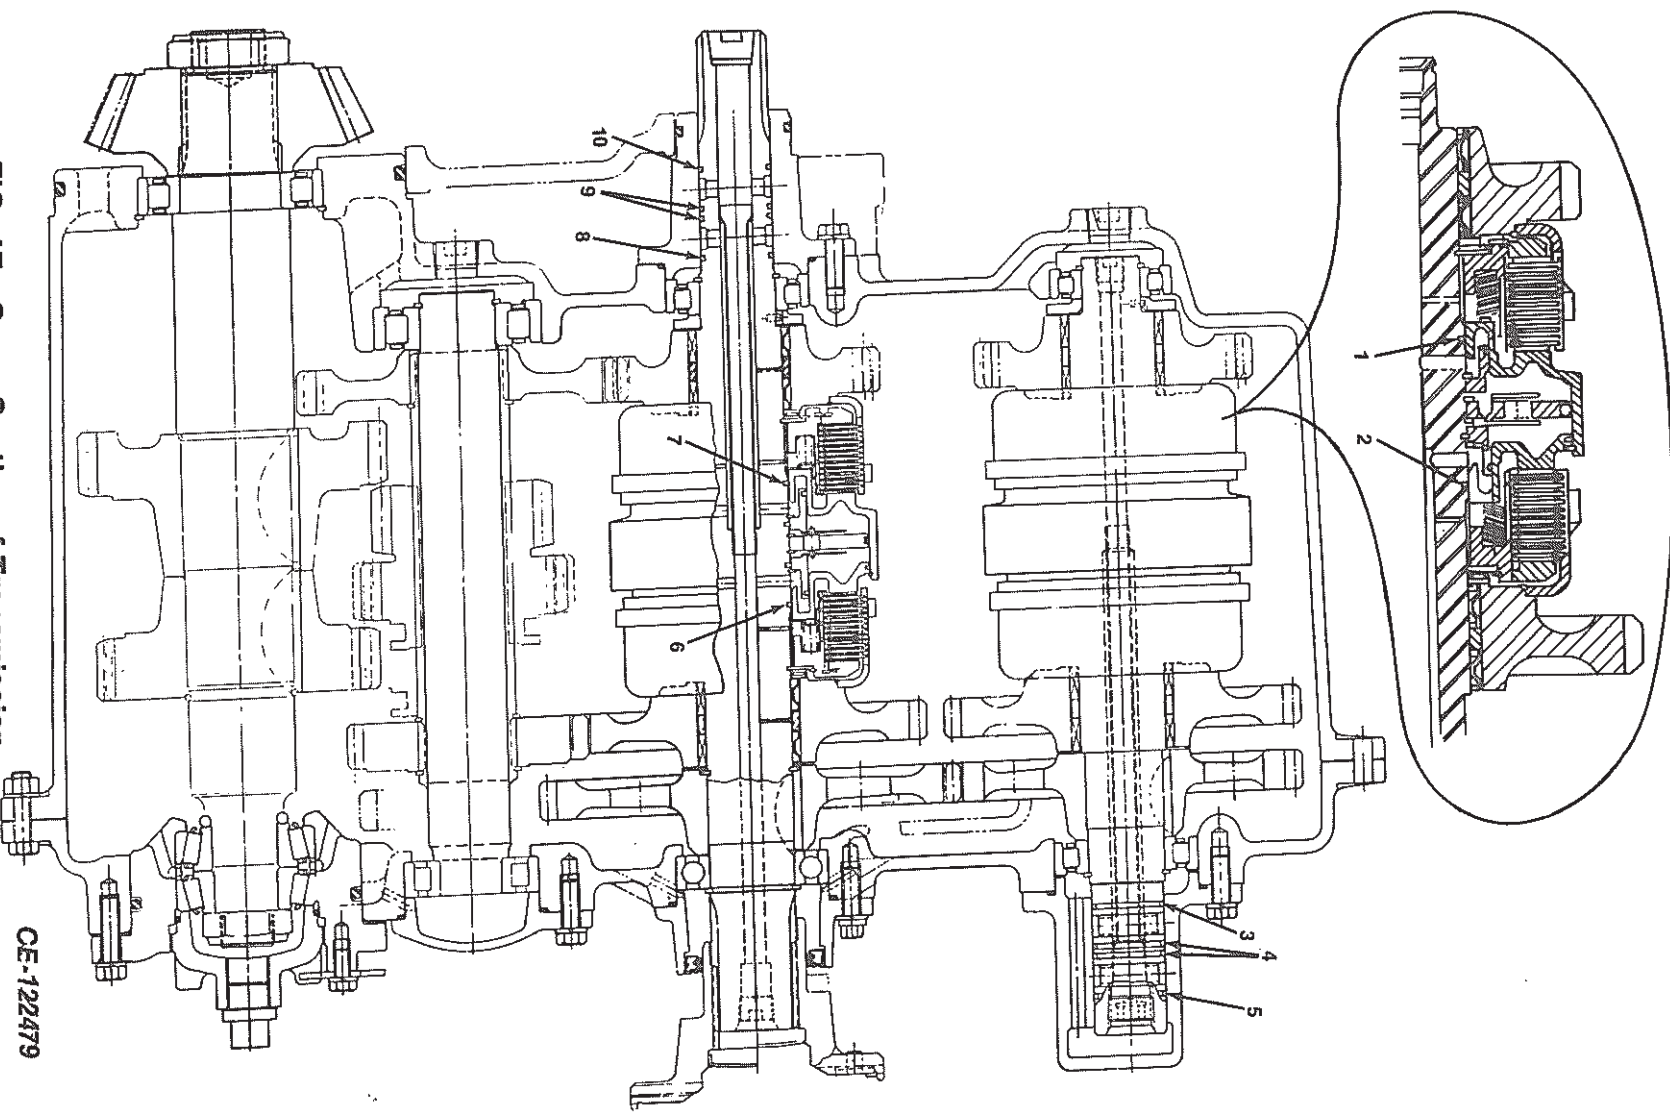

FIG. 4E—Cross Section of Transmission
6. Low main pressure in 1st forward.....	a. Leaking seal ring (7 or 8, Fig. 4E)
7. Low main pressure in 2nd forward	a. Leaking seal ring (6 or 10, Fig. 4E)
8. Low main pressure and high lube pressure in 1st forward and 2nd forward.....	a. Leaking seal rings (9, Fig. 4E)
9. Low main pressure in 1st reverse	a. Leaking seal ring (1 or 5, Fig. 4E)
10. Low main pressure in 2nd reverse	a. Leaking seal ring (2 or 3, Fig. 4E)
11. Low main pressure and high pressure in 1st reverse and 2nd reverse	a. Leaking seal rings (4, Fig. 4E)
Legend for Fig. 4E